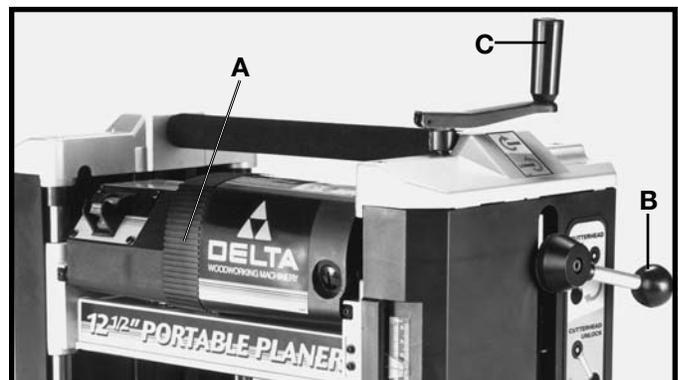

Fig. 16
The head assembly (A) Fig. 16, contains the cutterhead, feed rollers, chip deflector and motor. Raising and lowering the head assembly controls the depth of cut on your planer. To raise or lower the head assembly, rotate the cutterhead lock handle (B) counterclockwise to unlock the cutterhead and turn the cutterhead raising and lowering handle (C) clockwise to raise or counterclockwise to lower the cutterhead. One revolution of handle will move the cutterhead up or down 3/32". **FOR BEST RESULTS, ALWAYS LOCK THE CUTTERHEAD IN PLACE, BY ROTATING HANDLE (B) CLOCKWISE BEFORE PLANING.**